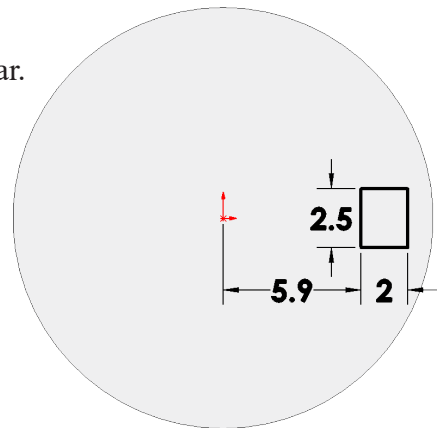

Fig. 22
Step 8. Click **Smart Dimension**  (S) on the Sketch toolbar.
Step 9. Add dimensions, **Fig. 22**.